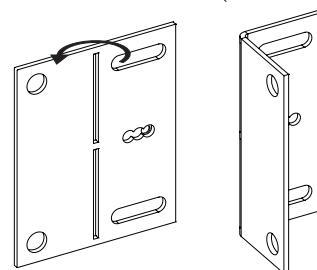

Figure 32
7. Bend the nailing flanges 90 degrees as shown in **Figure 32**.